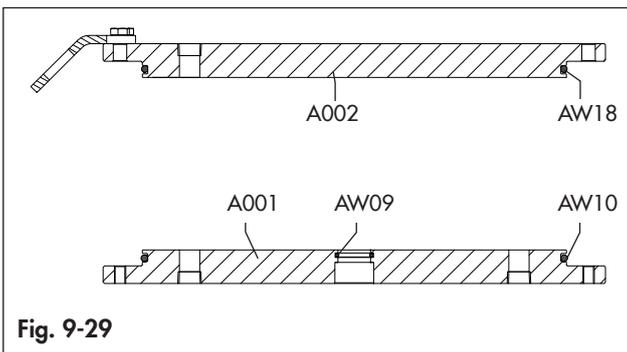

Fig. 9-29
- Clean, inspect, lubricate the related housings and replace the o-rings (AW09, AW10 and AW18). (Fig. 9-29)